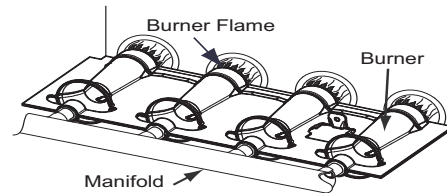

Fig. 61 – Burner Flame
- i. When correct input is obtained, replace cap that conceals gas valve regulator adjustment screws. Main burner flame should be clear blue, almost transparent See Fig. 61.